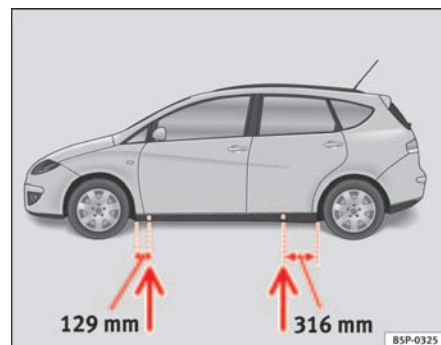

Fig. 173 The jacking points
- Locate the jacking point under the door sill closest to the wheel being changed ⇒ **fig. 173**.
Recesses at the front and rear of the door sills mark the jacking points ⇒ **fig. 173**. A position has been made for each wheel. Do not fit the jack anywhere else.